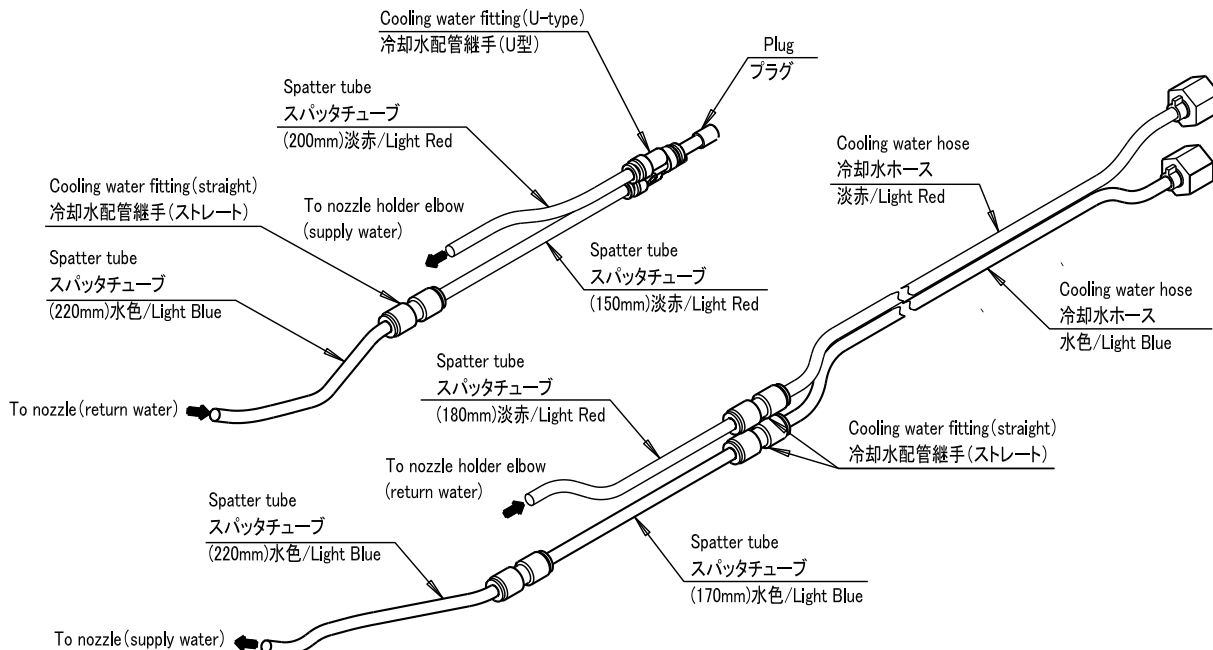

Fig.3.9 Connection of hose (3)
- (2) Create the assembly as shown in Figure 3.9, using the tube created in (1), coolant piping joints (straight type, U-shape type) and plugs.
- (3) Remove the hood from the shock sensor.
- (4) Lift the cable cover along the coaxial power cable. Insert the assembly created in (2) in the cable cover. Then, pass the assembly through the 6th axis hollow and connect it to the nozzle holder elbow.
Note) There are supply water and return water. Connect the assembly correctly as shown in Figures 3.9, 3.10 and 3.11 (detailed view of C). In this step, do not connect it to the nozzle. Do the connection later in (8). (See the drawing at left in Figure 3.9.)
Note) There are supply water and return water. Connect the assembly correctly as shown in Figures 3.9, 3.10 and 3.11 (detailed view of B).